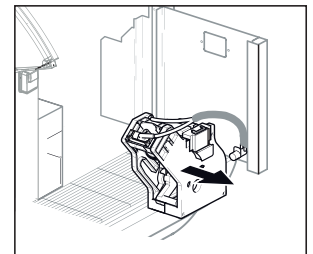

Fig. 1
- 3 Remove the brew group (screen will display “INS. BREW GROUP.”) (Fig. 1)
- 6 Remove the brewer group (screen will display “INS. BREW GROUP.”) (Fig. 1)